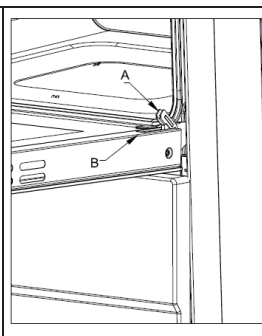

Fig.2
- Open the lever A completely on the left and right hinges(fig.2);